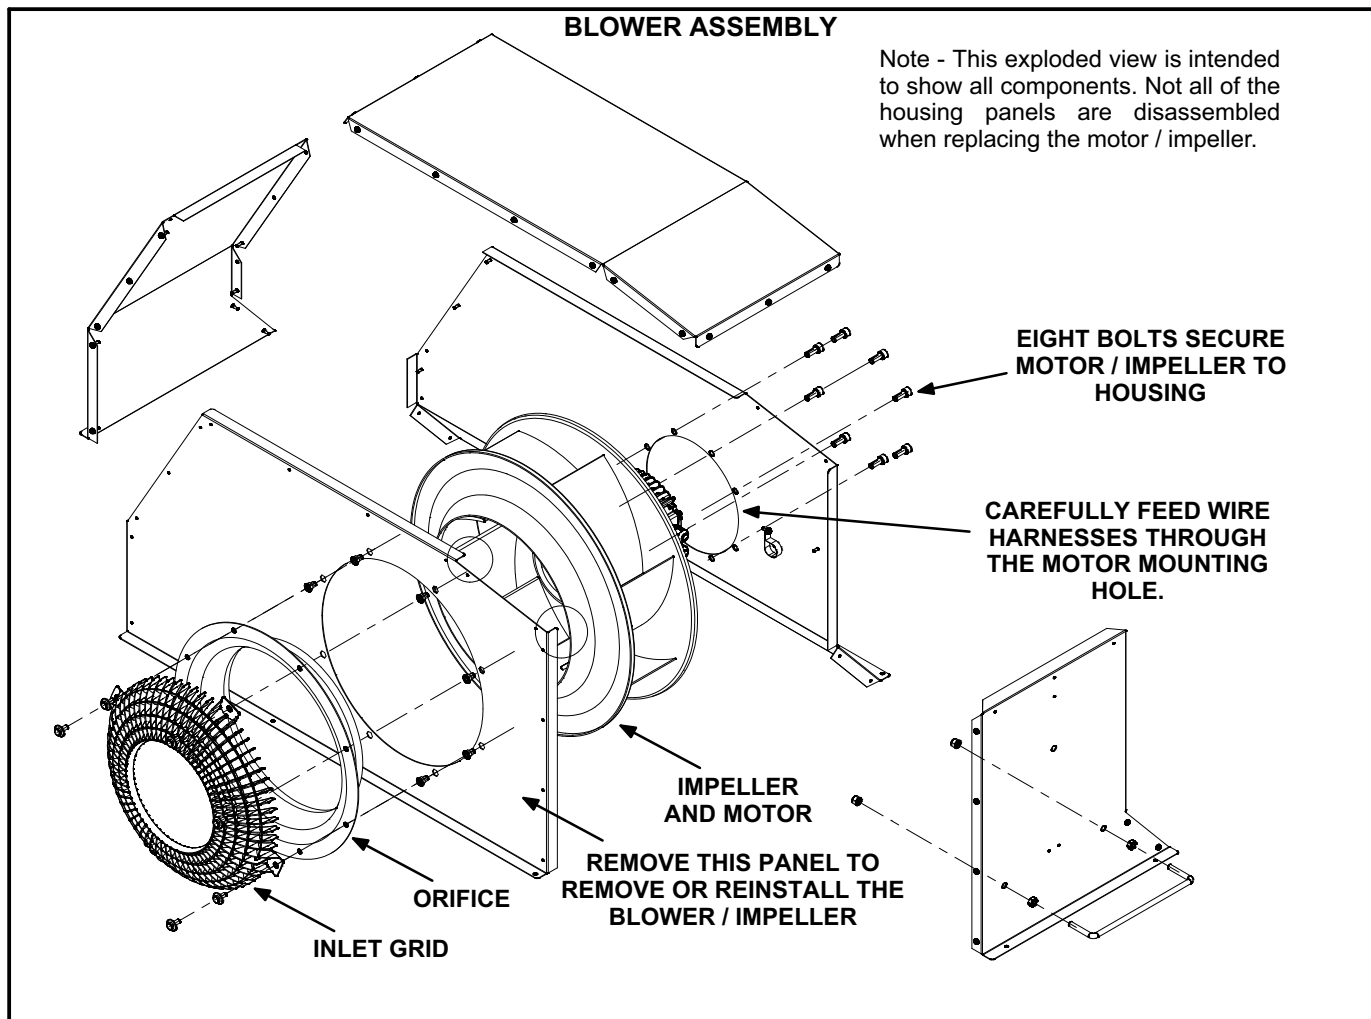

FIGURE 7
- 10- Remove the inlet grill, orifice and the side of the housing shown in figure 7.